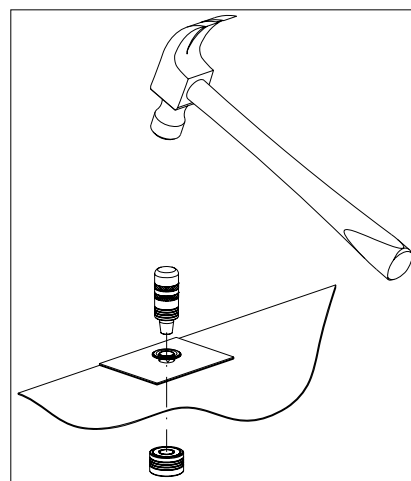

Figure 4
- Set the grommet using the grommet tools and a hammer. Several blows of the hammer will set the grommet (see Figure 4).